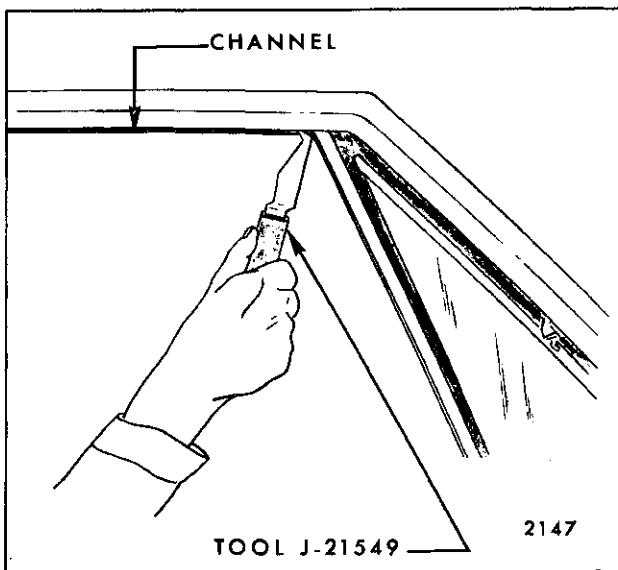

Fig. 6-75—Door Window Glass Run Channel Removal
- From outside door, insert a sharp pointed right angle tool (reveal molding clip disengaging tool J-21549 or equivalent) between outer edge of glass run channel and door upper frame as shown in Figure 6-75.